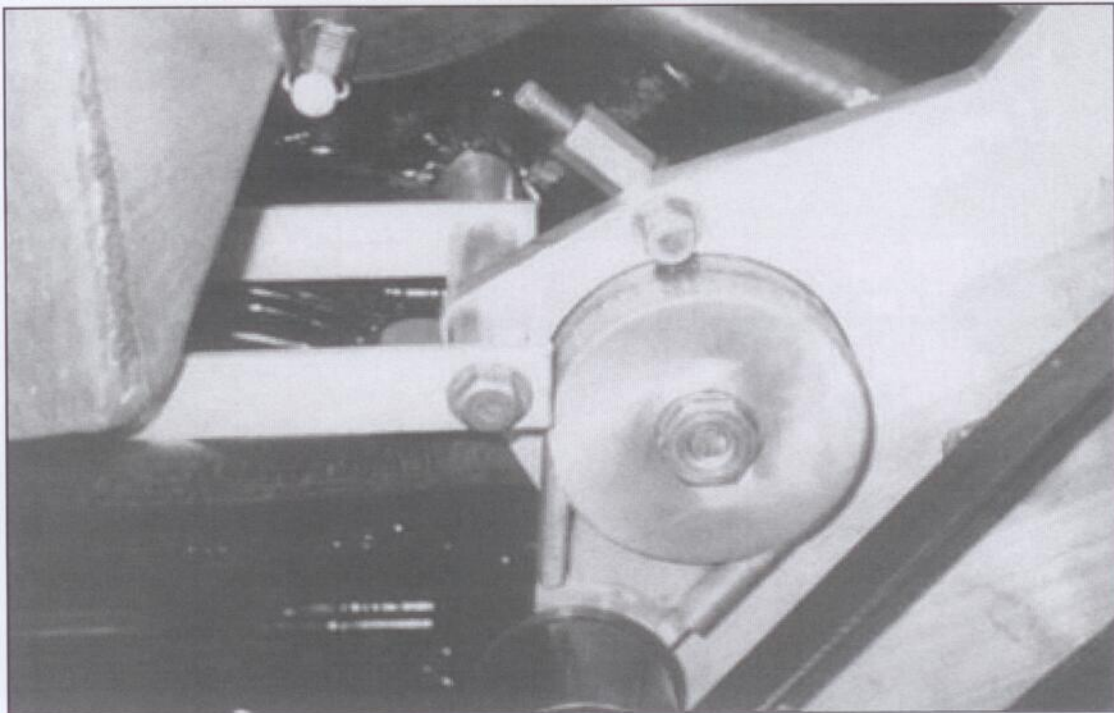

FIGURE D10
6. If you will be mounting your intercooler remotely, use a 7/16" x 5 1/2" (7/16" x 5" on SC system) bolt and 4.25" spacer to bolt hole A1 to the innermost head bolt hole. If you will be mounting your intercooler to the engine, bolt it to the heads as follows. Orient the intercooler with the tabs at the bottom with the longer straps toward the port side. Run the 7/16" x 7" bolt through the front intercooler strap, the 1.5" (1.8" on SC system) spacer, hole A1 on the main bracket, a 2" spacer, the rear intercooler strap, and finally the other 2" spacer (see figure D10). Install all bolts to head loosely so the intercooler can be rotated into position on the starboard side head. Remove bolt holding the alternator bracket to the innermost head bolt hole on the starboard side. Run the 7/16" x 7 1/2" bolt through the intercooler strap, the 2.3" spacer, and alternator bracket and bolt to the head.